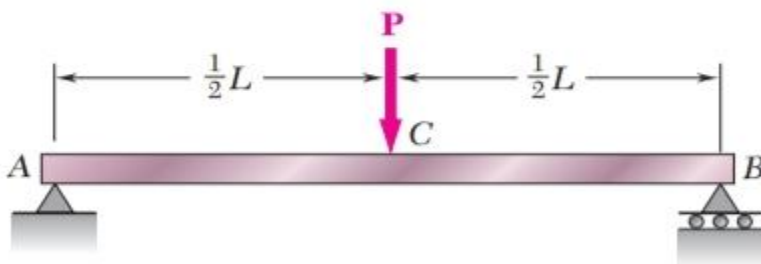

Figure 6.1
- (i) a simply supported beam AB of span L subjected to a single concentrated load P at its midpoint C (Figure 6.1) **(5 marks)**